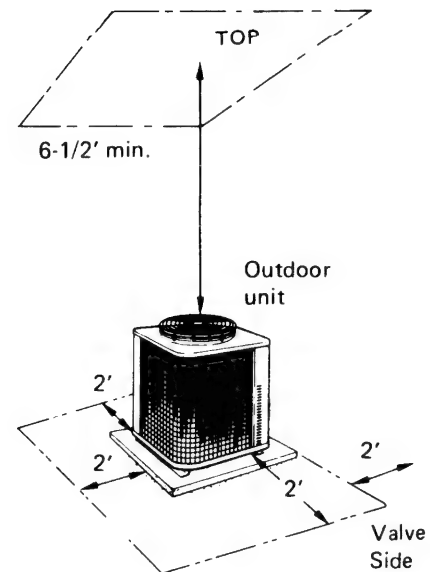

Fig. 4
- allow enough room around unit for air intake/exhaust and possible maintenance. Fig. 4